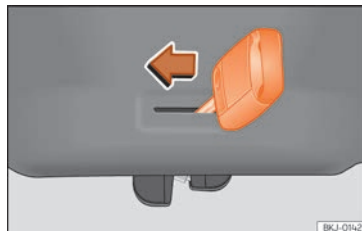

Fig. 90 Detail of the luggage compartment: emergency unlocking
- Insert the key blade into the slot and move the key in the direction of the arrow until the lock unlocks » **Fig. 90**.